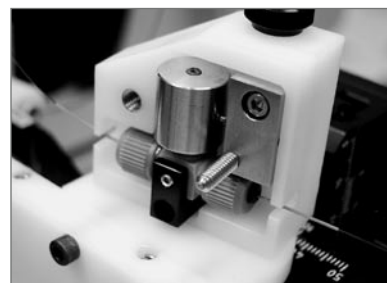

FIGURE 6
- 5) Place the MicroTee into the UTM (Figure 6), replace the cover, and lock it into position.